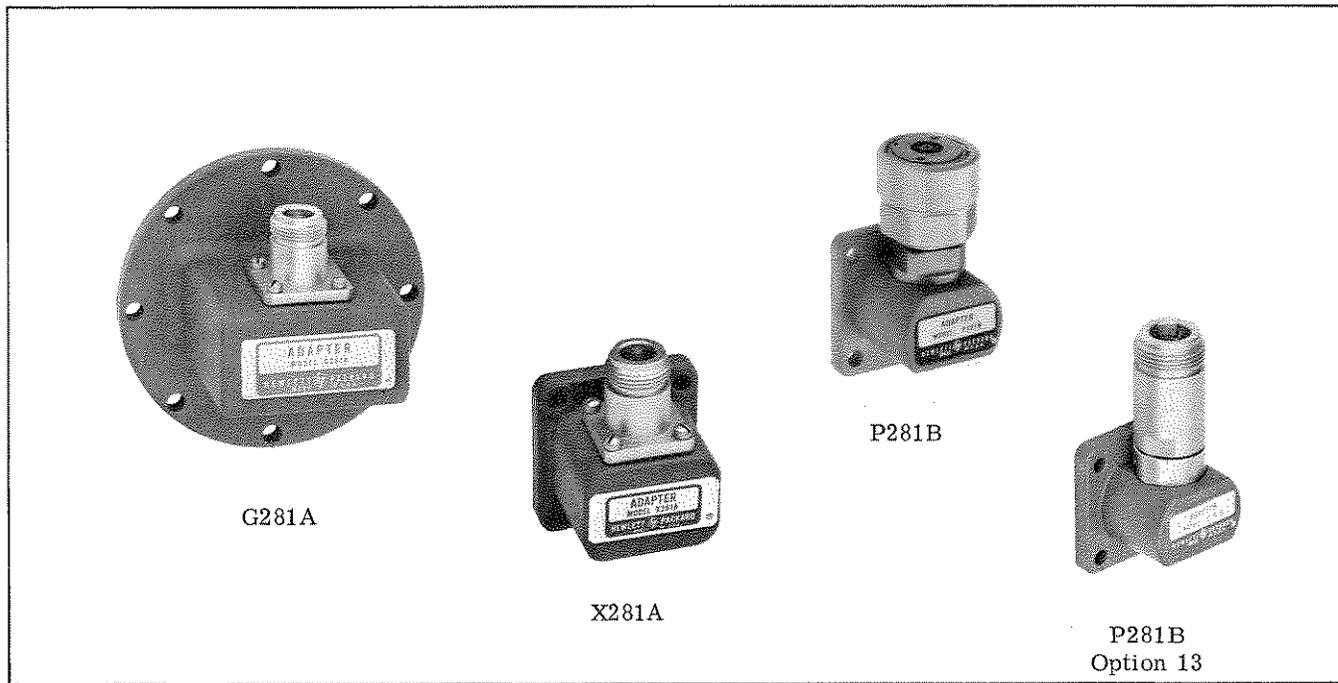

Figure 1. Typical Adapters Showing Flange Types and Coaxial Connector Styles
3. Examples of the waveguide flanges and coaxial connectors used on these adapters are shown in Figure 1. Two types of flange and three versions of 7-mm coaxial connector are used. S, G and J adapters have circular flanges - H, X and P have rectangular flanges. Plated brass Type N female connectors, which are compatible with connectors conforming to MIL-C-71, are used on all A model adapters. Except for Option 13 adapters, B model adapters have Amphenol¹ precision 7-mm (APC-7) connectors. These APC-7 connectors feature precise alignment, a clearly defined reference plane, and low RF leakage. In addition, any pair can be connected together without an adapter. Option 13 adapters have stainless steel Type N female